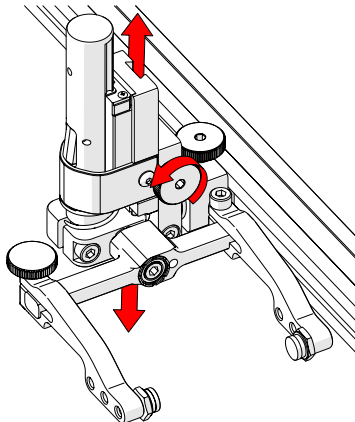

Fig. 106 - Vertical adjustment
2. The vertical adjustment knob allows the vertical probe holder height adjustment (Fig. 106).